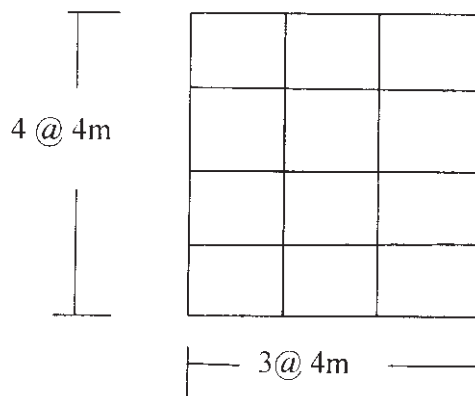

Figure 6.1
- Q6)** Determine lateral forces at different storey levels for a plan of three storey school building as shown in Figure 6.1. Assume D.L. = 5kN/m^2 , L.L. = 4kN/m^2 on each floor and 1.5kN/m^2 on roof. Assume floor height 4m for ground and 3m for remaining storey with soil type hard and seismic zone IV. [18]